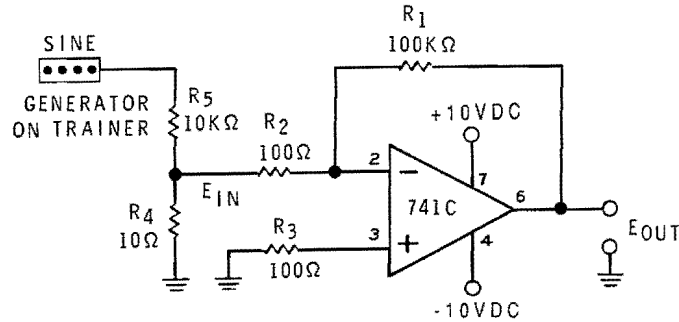

Figure 3-58
27. Construct the circuit shown in Figure 3-58. Set the Generator frequency to 200 hertz.
The gain of the amplifier shown in Figure 3-58 is about  $-1000$ .